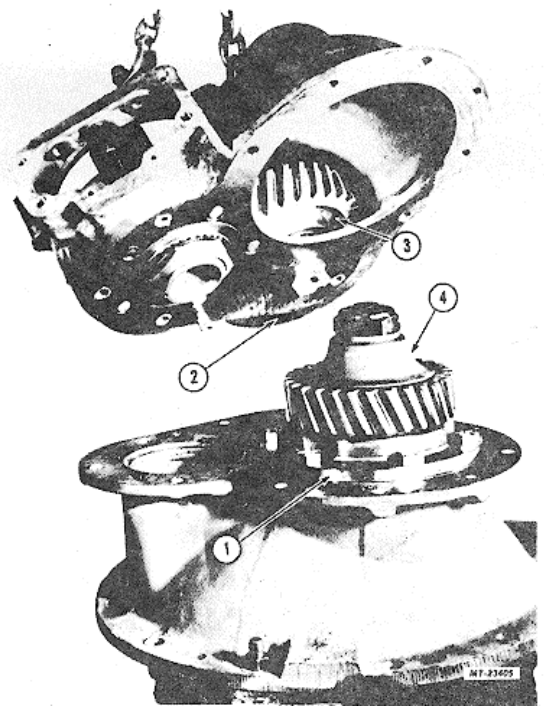

Fig. 5. Removing Power Divider Intermediate Case Assembly
3. Remove intermediate case-to-diff carrier bolts and lift intermediate case from diff carrier (Fig. 5).